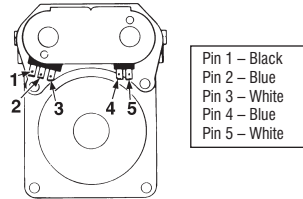

Figure 13 - Measuring gas valve resistance.
3. Use an ohmmeter to determine if a gas valve coil has malfunctioned. Remove harness plugs. Measure resistance across the terminals (see Figure 13). Readings should match those shown in the following chart; if not, replace coils.